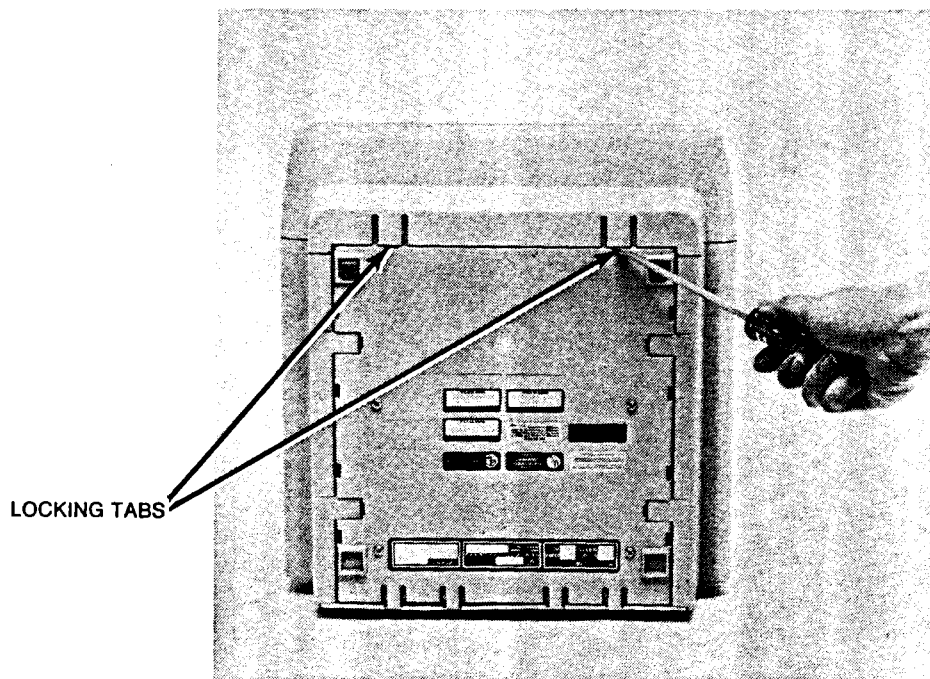

Figure 8-18. Removing the Bezel
1. Remove the bezel (with Touchscreen) from the mainframe by using a flatblade screwdriver to unhook the bezel's locking tabs, located on the bottom of the unit, from the mainframe (see figure 8-18).